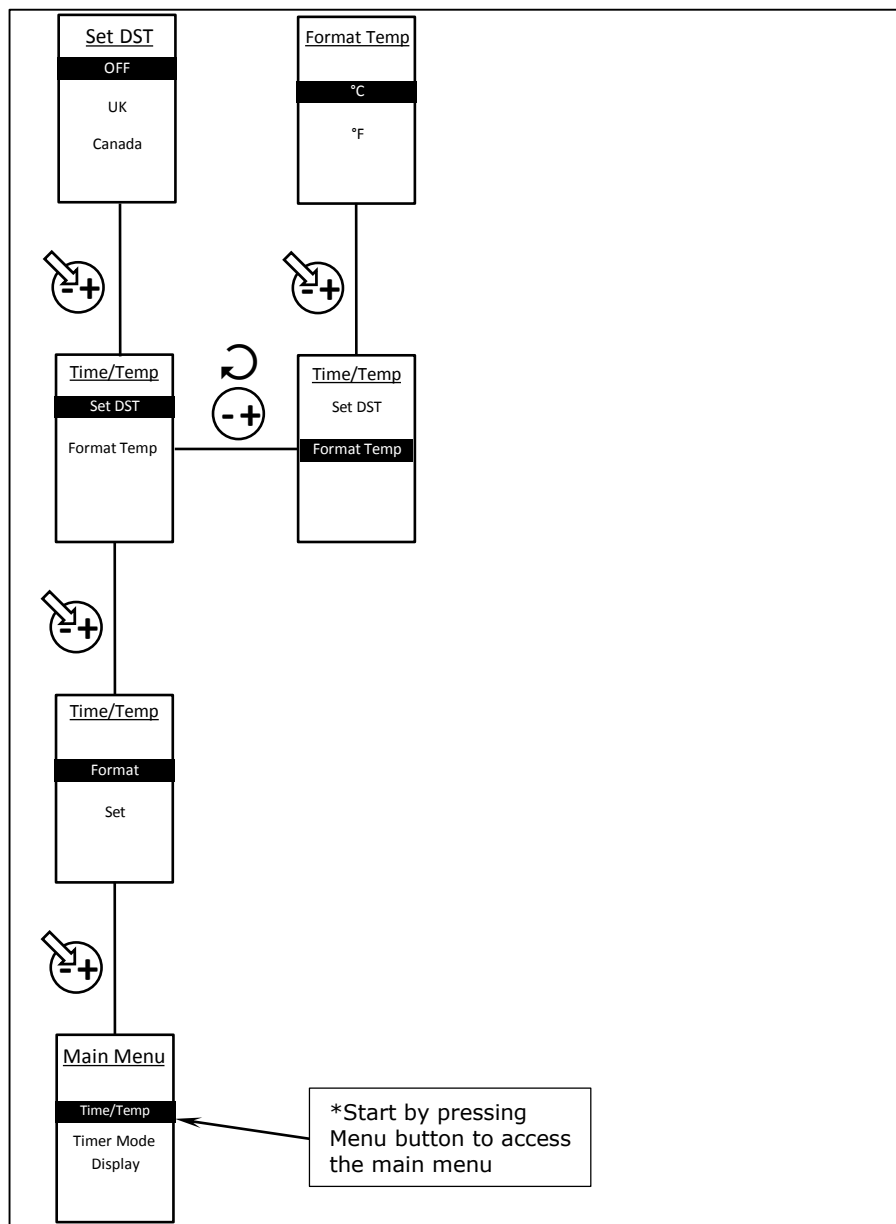

Figure 17: How to Change the Format of Time and Temperature
- format of time and date and the unit of measure for the temperature display (see Figure 17)